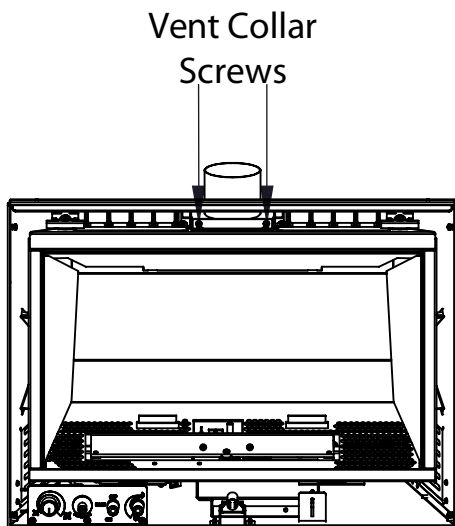

Figure 33: Vent Collar Plate Screw Location.
5. If the fireplace opening is lower than 20" (483mm), remove the vent collar plate from the top of the insert by unscrewing the two (2) T-20 Torx screws located on the center top of the stove above the door opening (see Figure 33). Slide the collar plate backwards. Properly secure the vent collar plate to the flexible vent pipe liner(s) previously installed in the chimney. Be careful not to over-stretch the liner(s).